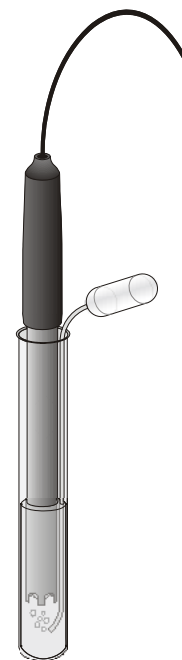

Figure 4
14. Insert the long-stem pipet labeled “ CO_2 ” into the test tube, alongside the pH Sensor, so that its tip extends into the water to the bottom of the test tube, as shown in Figure 4.